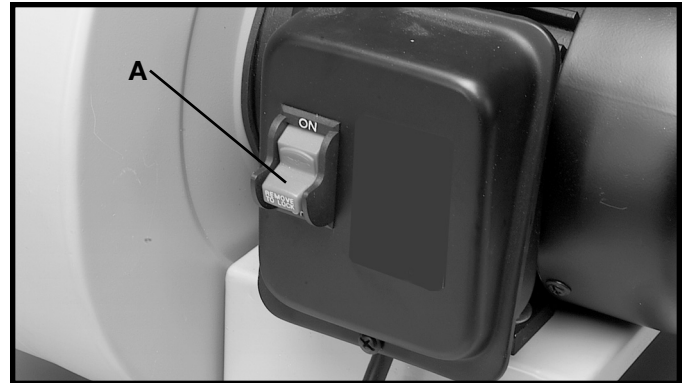

Fig. 24
1. The on/off switch (A) Fig. 24 is located on the front of the machine. To turn the machine **“ON”**, move the switch up to the **“ON”** position.
2. To turn the machine **“OFF”**, move the switch (A) down to the **“OFF”** position.